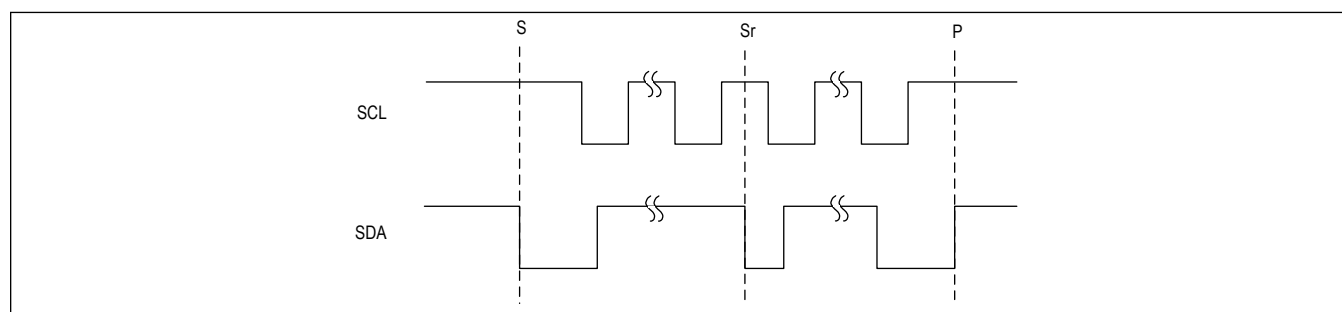

Figure 36. I2C START, STOP, and REPEATED START Conditions
When writing to the MAX20360 using the I2C interface, the master sends a START condition (S) followed by the MAX20360 I2C address. After the address, the master sends the register address of the register that is to be programmed. The master then ends communication by issuing a STOP condition (P) to relinquish control of the bus, or a REPEATED START condition (Sr) to communicate to another I2C slave. See Figure 36.